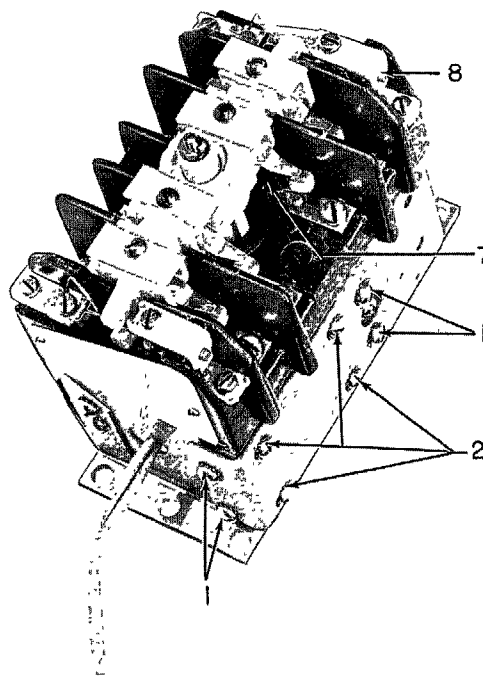

Fig. 2. IC5182-A120 multiple-pole relay
Remove the four screws holding the solenoid support (1), Fig. 2 and lift out the solenoid and support assembly. Remove the four screws holding the solenoid to the support (2) to permit removal and replacement of the coil.
To remove the stationary contact tips, remove screws (7), Fig. 2 and replace tips.
To change a normally closed stationary tip, remove screws (8), Fig. 2, install a new tip, and replace screws.